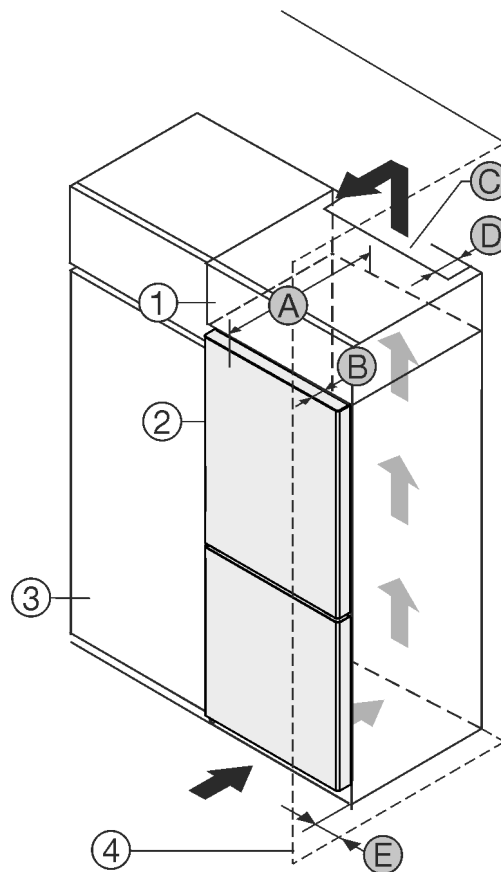

Fig. 1
- (1) Top cupboard *
- (2) Appliance *
- (3) Kitchen cabinet *
- (4) Wall *
- (A) Appliance depth *
- (B) Door depth *
- (C) Ventilation cross section *
- (D) Distance to the back of the appliance *
- (E) Distance to the side of the appliance *
You can place the appliance directly beside the kitchen cabinet Fig. 1 (3).*
There must be a ventilation shaft at the depth Fig. 1 (D) of the back of the top cupboard over the entire width of the top cupboard.*
The ventilation cross-section *Fig. 1 (C)* must be maintained under the ceiling.*
If the appliance is set up with the hinges next to a wall *Fig. 1 (4)*, the distance between the appliance and the wall must be at least 13 mm.*
If the appliance is set up with the hinges next to a wall *Fig. 1 (4)*, the distance between the appliance and the wall must be at least 20 mm.*
In order to be able to fully open the door, the appliance must protrude by the depth of the door *Fig. 1 (B)* from the front of the kitchen cabinet. The appliance may protrude further depending on the depth of the kitchen cabinets *Fig. 1 (3)* and whether wall spacers are used.*